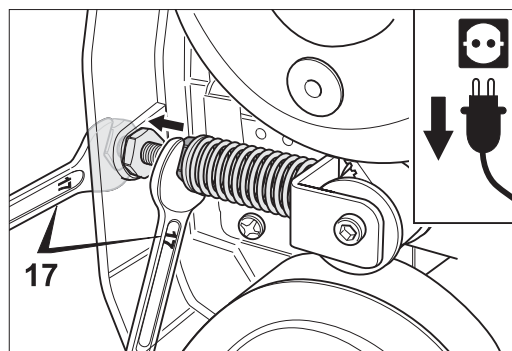

Fig. 38 Turn the clamping nut back to the counter nut.
- 8 To expand the spring, now turn the second nut back to the counter nut (Fig. 38).